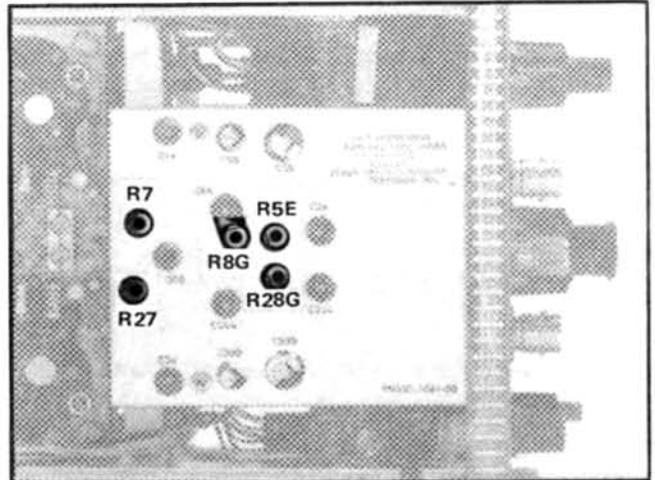

Fig. 5-7. Attenuator board adjustment locations used in the DC Input Resistance and Attenuator Ratio Adjustments procedure.
k. ADJUST—If trace shift exceeds ± 0.3 division, leave the + INPUT Mode switch in the DC position and adjust R8G (see Fig. 5-7) so that the trace is within the given tolerance. Recheck for no trace shift as the + INPUT switch is set from V_c to DC. If necessary, readjust R8G.
i. ADJUST—If a +4.500 volt reading is not obtained, adjust R7 (see Fig. 5-7) for a +4.500 volt indication on the Precision DC Voltmeter.
g. ADJUST—If the tolerance is exceeded, leave the + INPUT Mode switch in the DC position and adjust R5E (see Fig. 5-7) for minimum trace shift.
g. ADJUST—If trace shift exceeds ± 0.3 division, leave the - INPUT Mode switch at DC and adjust R28G (see Fig. 5-7) for minimum trace shift.
- j. ADJUST—If a +4.500 volt reading is not obtained, adjust R27 (see Fig. 5-7) for a +4.500 volt indication on the Precision DC Voltmeter.